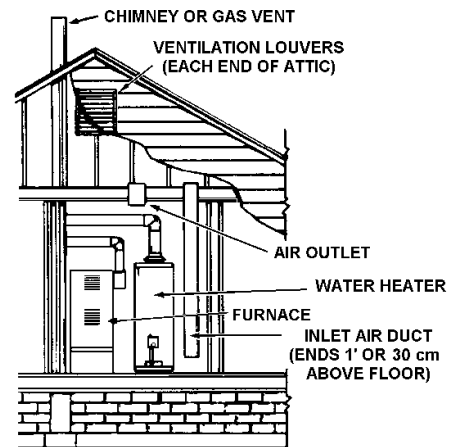

FIGURE 12.
- When directly communicating with the outdoors, each opening shall have a minimum free area of 1 square inch per 4,000 Btu per hour (5.5 cm2/kW) of total input rating of all equipment in the enclosure, see Figure 12.
- When communicating with the outdoors through vertical ducts, each opening shall have a minimum free area of 1 square inch per 4,000 BTU per hour (5.5 cm2/kW) of total input rating of all equipment in the enclosure, see Figure 12 on page 11.